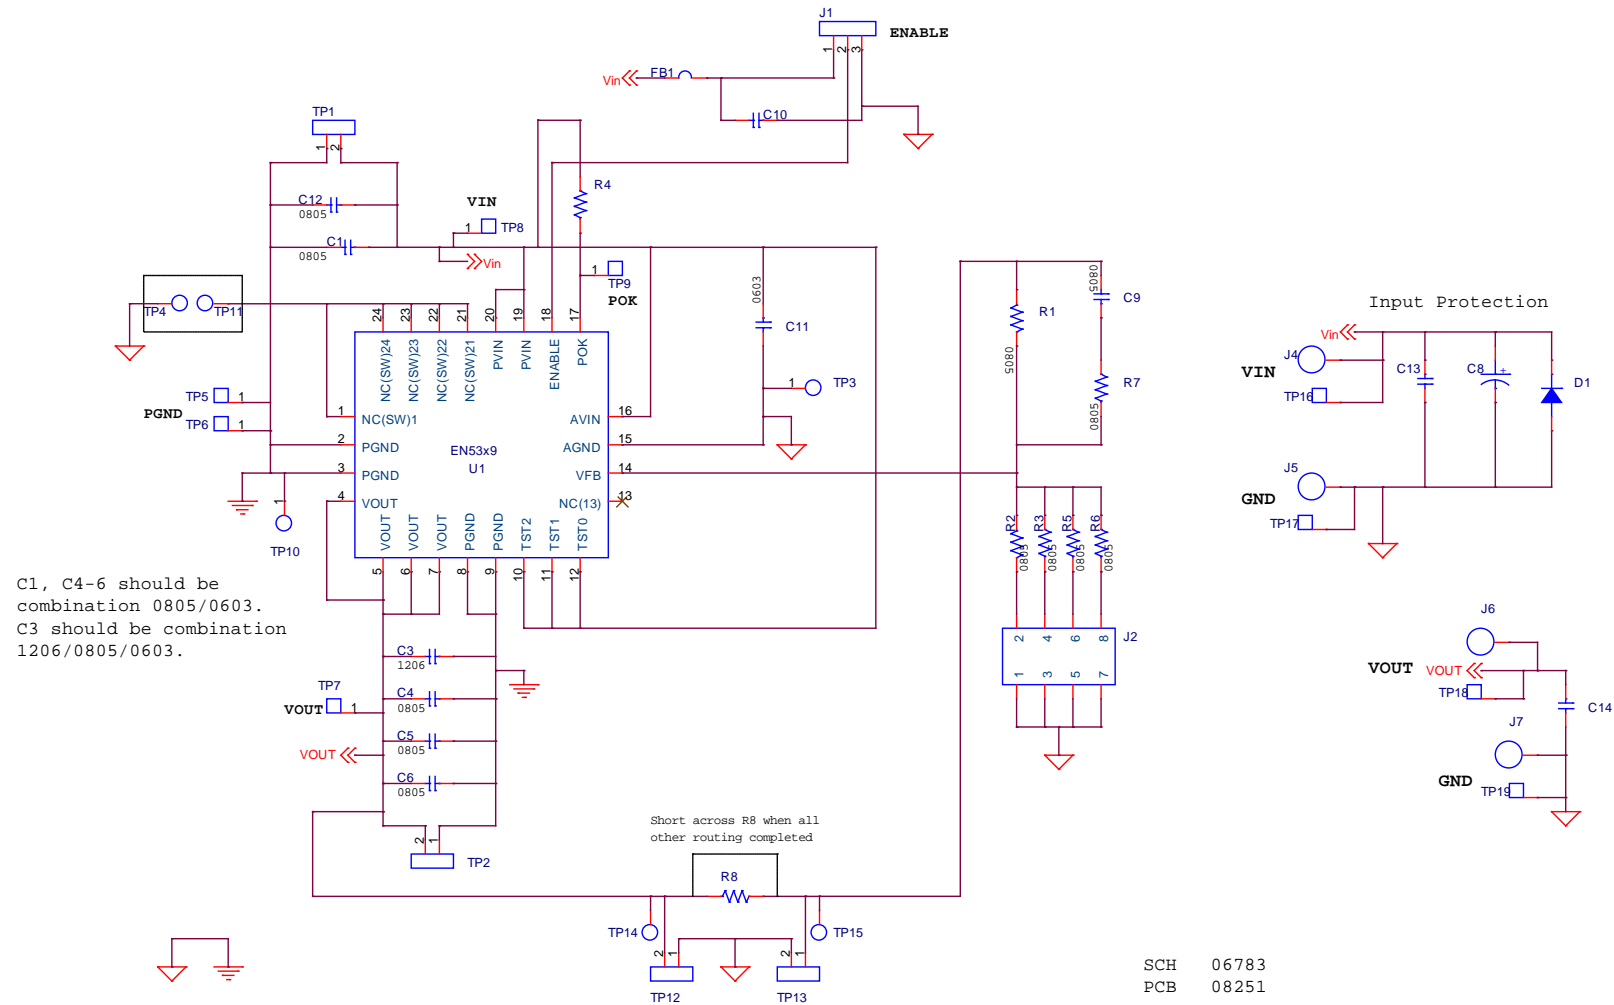

Figure 3. Engineering Evaluation board schematic.
STEP 2: Select the desired VOUT voltage setting by placing the jumper J2 on the correct jumper pin. Figure below shows the VOUT jumper options and their nominal voltages. Note that depending on the tolerance of the resistors populated on the board, each output voltage setting may have a larger tolerance than just the VFB pin as specified in the datasheet. Please see Figure 3 and the Bill of Materials section. Multiple jumpers can be populated to get other output voltages not listed below. With the resistors shown below, if all 4 jumper positions are populated, the output voltage will be approximately 3.7V. Note that for any VOUT higher than 3.3V, the output capacitors need to be changed to 2 x 22uF/0805.